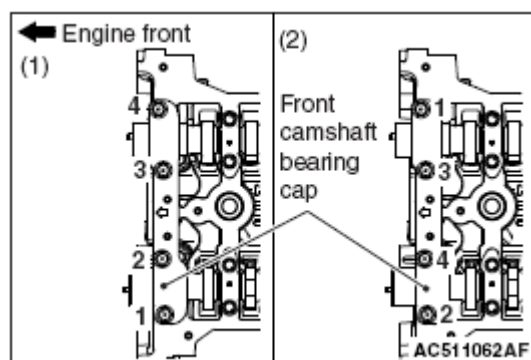

Fig. 97: Identifying Front Camshaft Bearing Cap Mounting Bolts Tightening Sequence
1. Install the front camshaft bearing cap to the cylinder head, and temporarily tighten the front camshaft bearing cap mounting bolts to the specified torque in the order of the (1) in **Fig. 97**
2. Tighten the front camshaft bearing cap mounting bolts again to the specified torque in the order of the (2) in **Fig. 97**